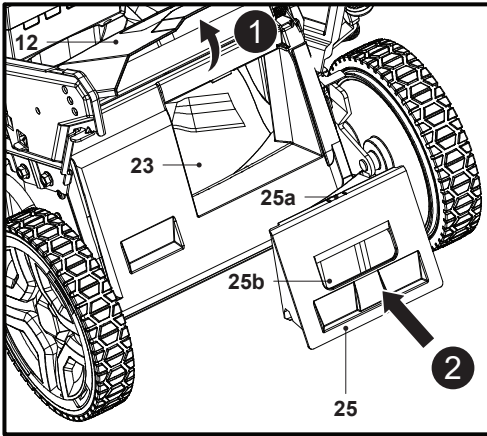

Fig. 14
1. Open the deflector guard (12), hold the recess handle (25b) in position and insert the mulching insert (25) into the rear discharge chute (23) (Fig. 14). Ensure the locking latch (25a) snap into the rear discharge chute (23).